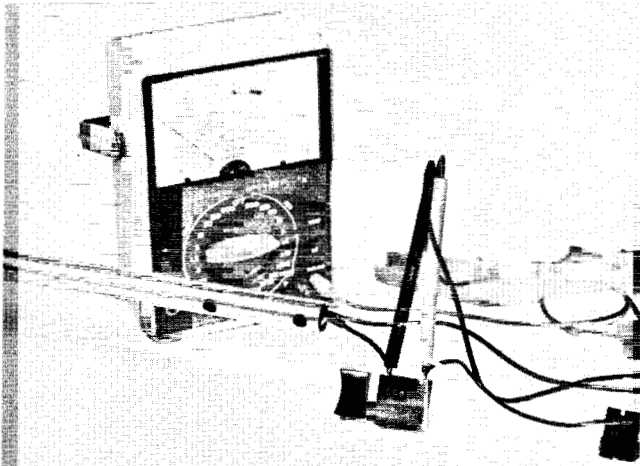

Figure 3.9a
3.9 TEST SWITCH (figs. 3.9a, 3.9b)